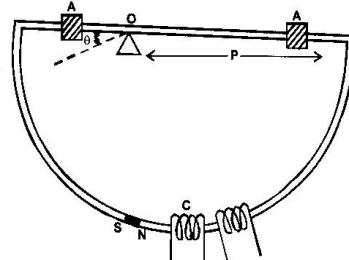

Fig.2. THE MECHANICAL PART WITH MAGNET NS PASS THROUGH COIL 'C' WITH A MEASURABLE VELOCITY
Magnet NS pass through the coil C (by using coil 1 OR 2) with varying velocities (Fig.2.) An aluminum frame can swing about a pivot O, its period adjustable by sliding the loads A, A. If D is released from angle θ_0 from the equilibrium, the velocity V_{max} with which the magnet passes through the coil is given by
5. Repeat after shifting the loads A, A (Fig.2.) so that T changes. The E_0 versus V_{max} data in this set-up fall on the same graph line as in step 4.